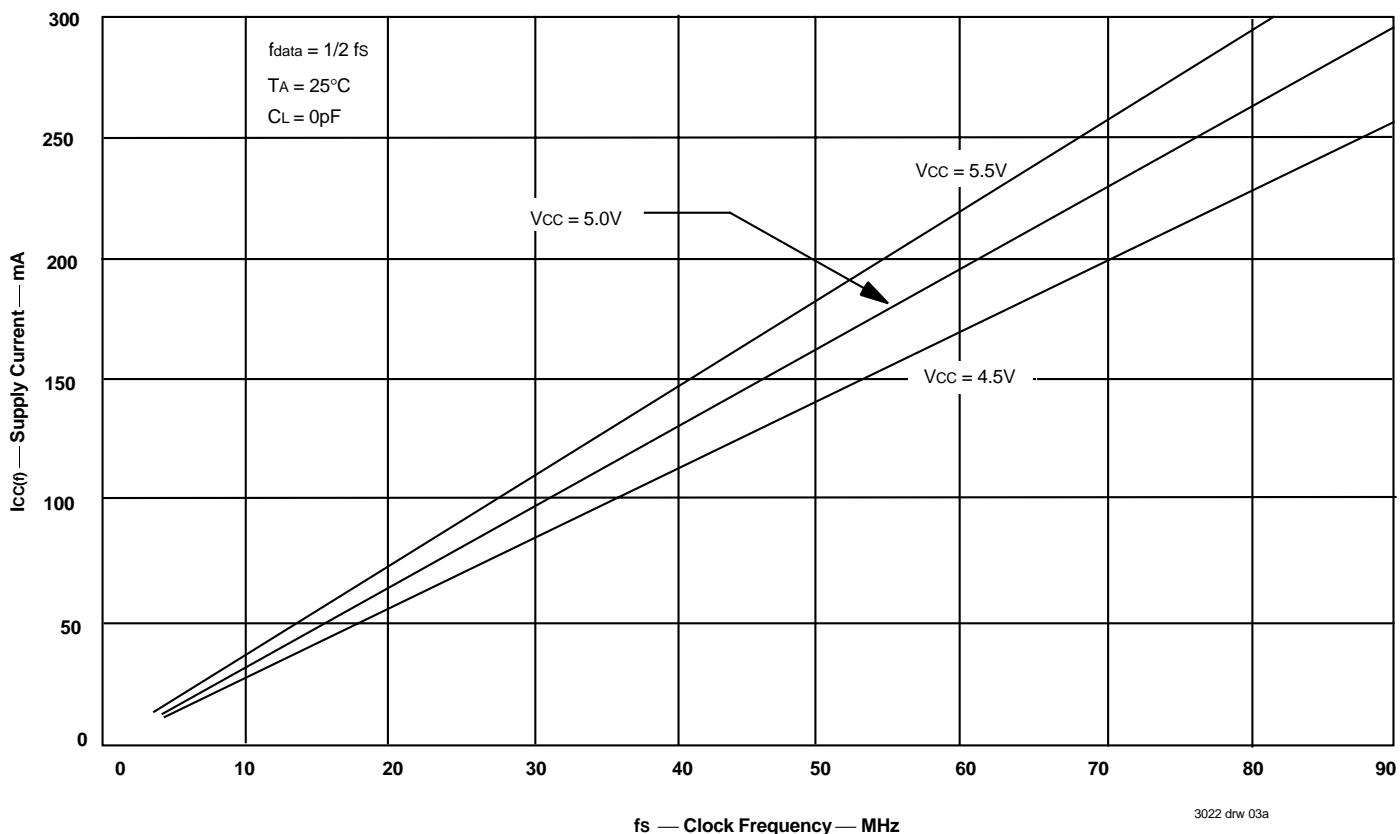

Figure 1. Typical Characteristics: Supply Current ( $I_{CC}$ ) vs Clock Frequency ( $f_s$ )
3. For additional ICC information, see Figure 1, *Typical Characteristics: Supply Current (ICC) vs. Clock Frequency (fs)*.
The  $I_{CC(f)}$  current for the graph in Figure 1 was taken while simultaneously reading and writing a FIFO on the IDT723622/723632/723642 with CLKA and CLKB set to  $f_s$ . All data inputs and data outputs change state during each clock cycle to consume the highest supply current. Data outputs were disconnected to normalize the graph to a zero capacitance load. Once the capacitance load per data-output channel and the number of these device's inputs driven by TTL HIGH levels are known, the power dissipation can be calculated with the equation below.
With  $I_{CC(f)}$  taken from Figure 1, the maximum power dissipation ( $P_T$ ) of these FIFOs may be calculated by: